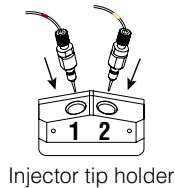

Figure 23. Inserting the injector tips.
11. Insert injector tips into the injector tip holder. Snap injector tips in place (Figure 23).